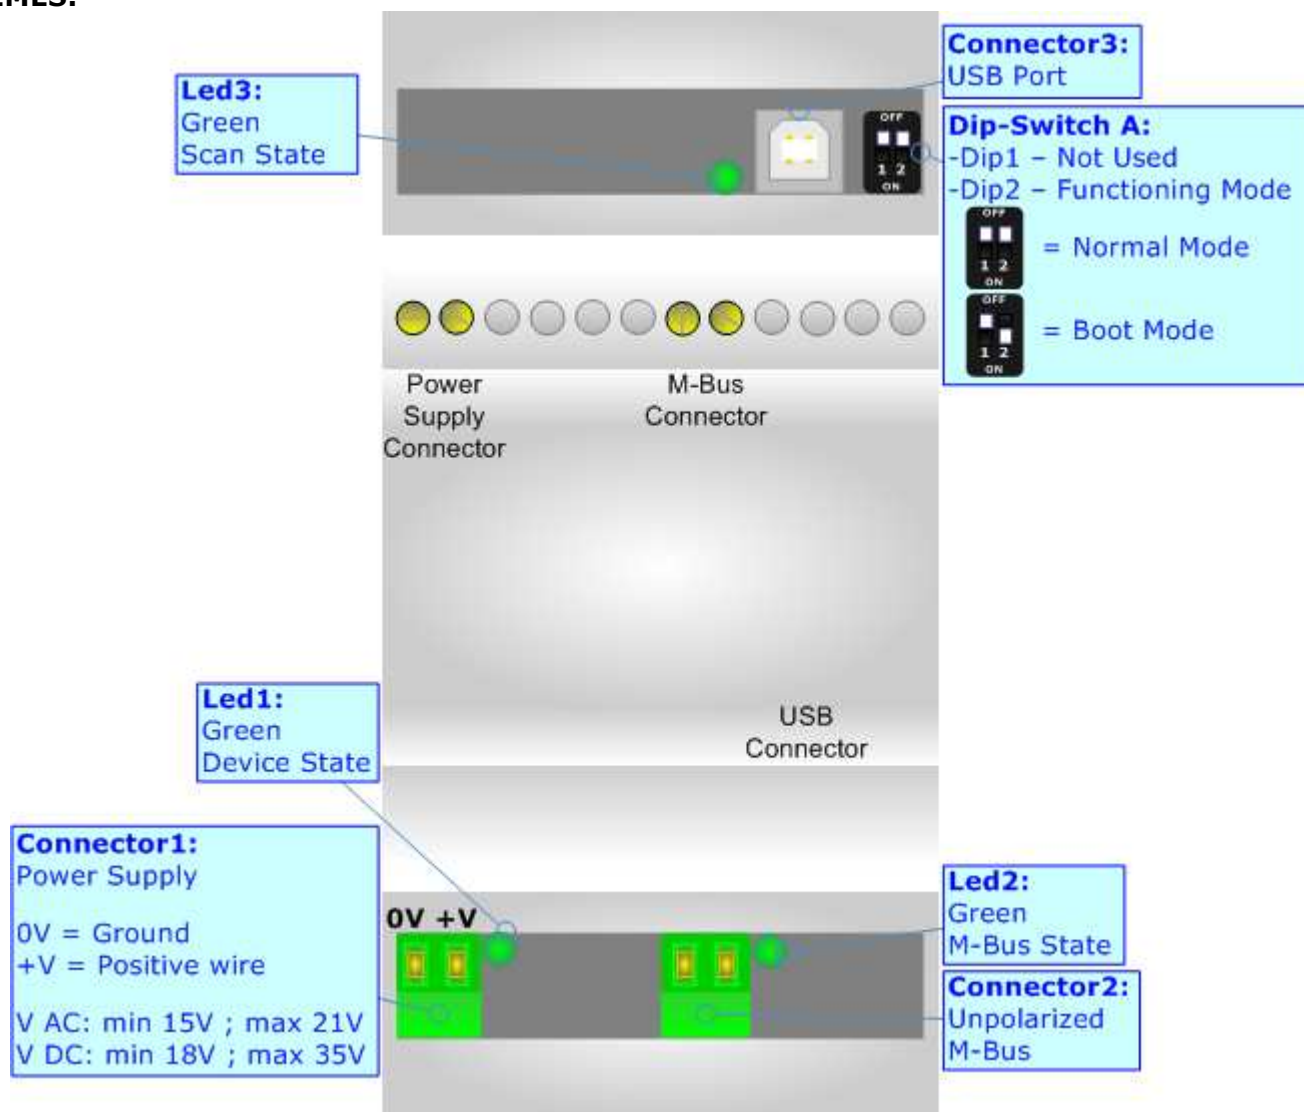

Figure 1: Connection scheme for HD67024-B2-xxx
The functions described above shall be made when the device is in Boot. For more details about Boot see "Connection Scheme" (Fig. 1).
- Insert the Boot Jumper (see the Fig. 1 for more info);